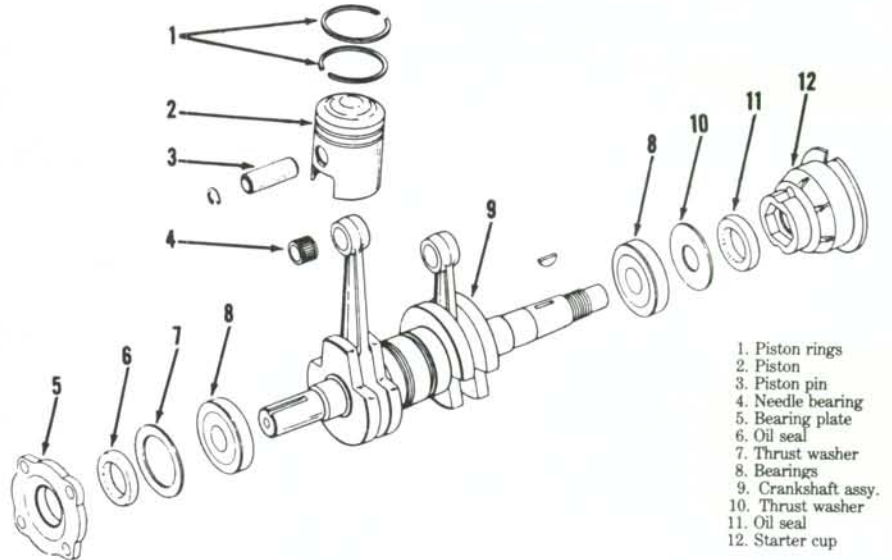

Fig. 5—Exploded view of crankshaft, pistons and associated parts used on centrifugal fan engines.
When removing drive-end bearing plate (5—Fig. 5) note number of shims (7) on shaft. Keep shims with bearing plate for reassembly. Scratch-mark magneto plate to assist in timing during reassembly, then remove magneto plate, flywheel end plate and shims (10). Note number of shims (10) and keep with end plate for reassembly.
lower crankcase half and snug up retaining cap screws. Slide crankshaft solidly toward flywheel end of housing as shown in Fig. 8 and measure end clearance between crankshaft bearing and drive end housing using a feeler gage as shown. Clearance should be 0.006-0.012; if it is not, vary the thickness of either shim pack (7 or 10—Fig. 5) as required. Shims are available in thicknesses of 0.006 and 0.012. Remove both bearing plates leaving shim pack in position on crankshafts. Coat flange areas of both crankcase halves evenly and lightly with KOHLER Crankcase Sealer (or equivalent). Lubricate all bearings with clean, light oil and reassemble crankcase halves and end plates.